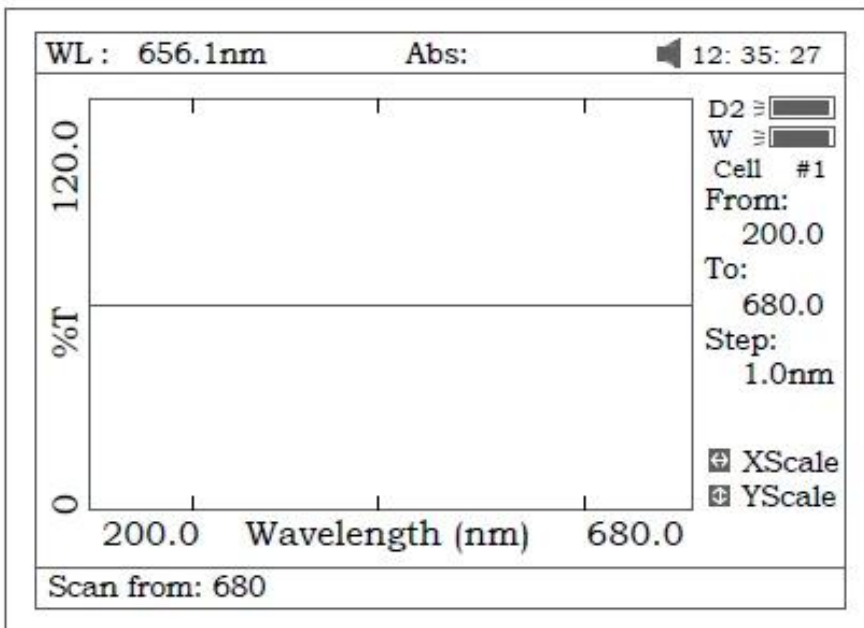

Figure 42
1. Press **F1** to setup, input the start wavelength, and end wavelength by pressing the numeric keypad (Fig 42). Note: This instrument scans from high to low wavelength. Browse and select the items of scan step and scan speed by pressing **λ** or **v** .